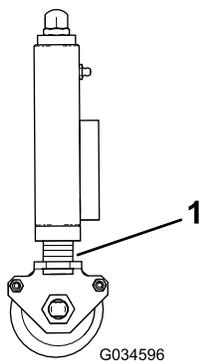

Figure 32
2. Ensure that all cutting units are set at the same height of cut by referring to the indicator rings (Figure 32).